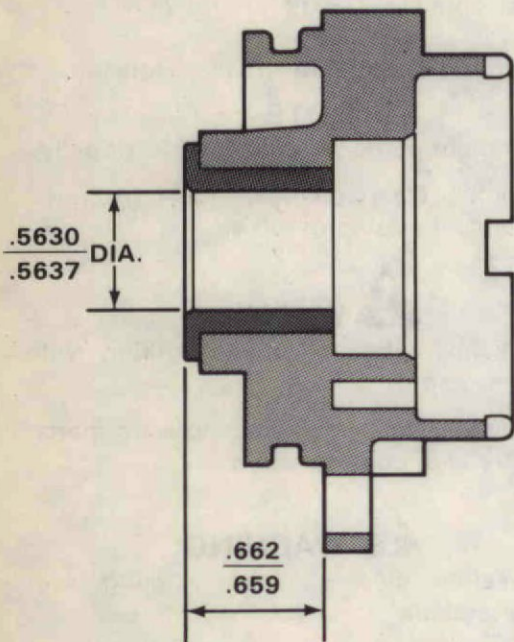

Figure 28. Propeller Shaft Bearing Cage Bearing I.D.
B. Measure I.D. of bearing. Bearing can not be replaced except as an assembly. Figure 28.